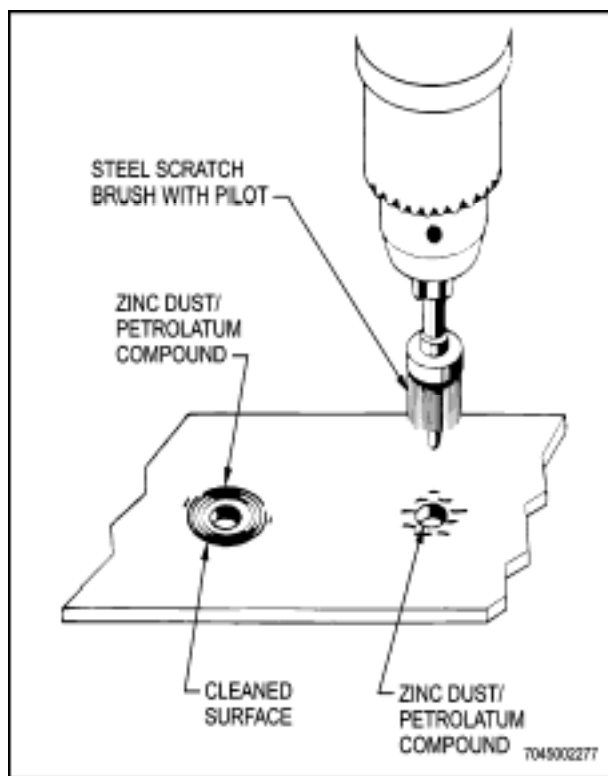

Figure 15-1 Scratch Brushing Unplated Aluminium Alloy Busbars
- b. Scratch brush the coated areas, using a rotary steel wire brush with a pilot as shown in Figure 15-1. Brush through the compound.